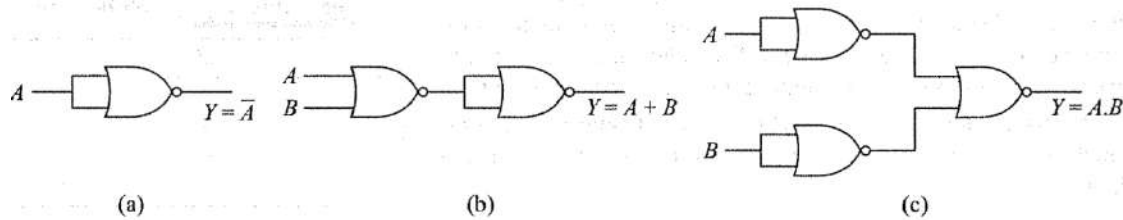

Fig. 2.21 Universality of NOR gate (a) NOT from NOR, (b) OR from NOR, (c) AND from NOR
- Figure 2.21 shows how all other logic gates can be obtained from NOR gates. To get a NOT gate we tie inputs of NOR gate together (Fig. 2.21 a) so that there is only one input to the circuit. If input is 0, then both